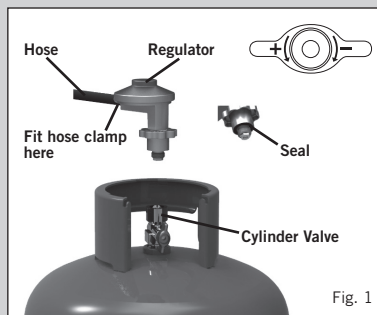

Fig. 1
- The hose and seal on the regulator must be checked for wear or damage before every use and before connecting to the gas cylinder (see Fig. 1).
- Carry out this check each time you fit the appliance to a gas cylinder (see fig. 1).